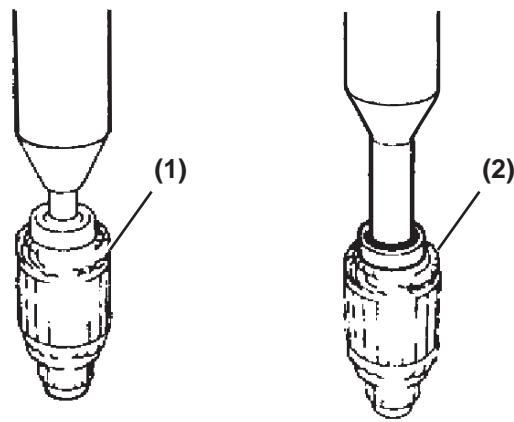

Figure 10-30
2. Press in a new front and rear bearing using the a press **(Figure 10-30)**.